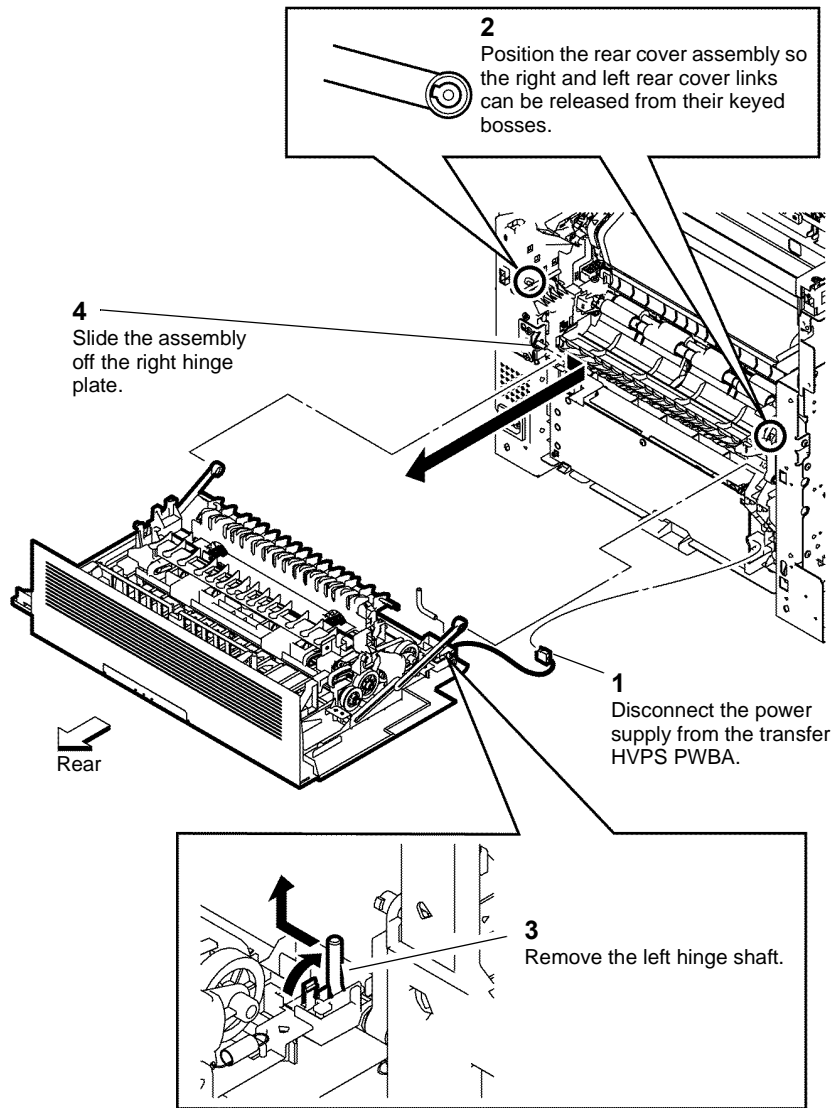

Figure 3 Duplex and rear cover assemblies
8. Remove the duplex assembly with the rear cover assembly, Figure 3.